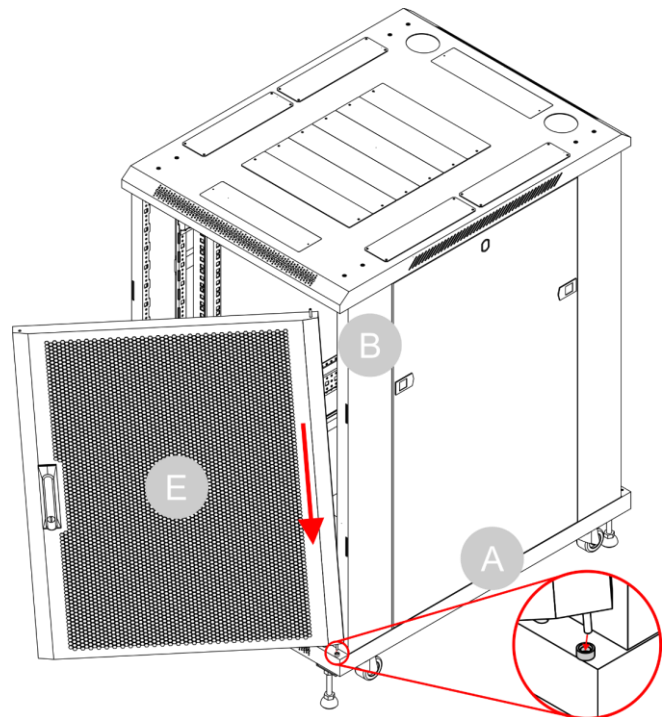

Fig. 40
- 24) Put the **mesh door (E)** in front of the **frame (B)**, so that the pin on the bottom of the **mesh door (E)** fits into the ring and the hole on the **bottom plate (A)**, as shown in Fig. 40.